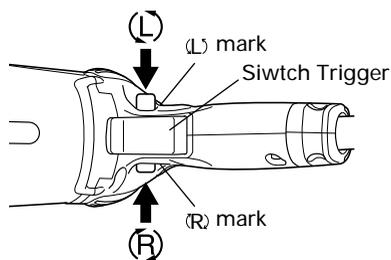

Fig. 7
9. Check the rotational direction (Fig. 7)
(1) Removing chuck from drill (Fig. 7)